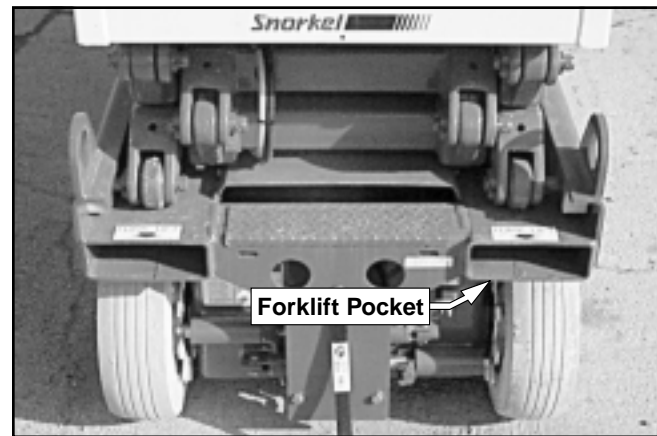

Figure 10.4—Forklift Pockets
3. Insert the forklift forks into the pockets (refer to Figure 10.4) or at the designated points under the pothole protector skids to lift the machine.